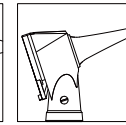

fig.3
- Put the otoscope with a tip into the ear canal of patient (fig.3), and examine through the viewing window which is with 3x magnification;